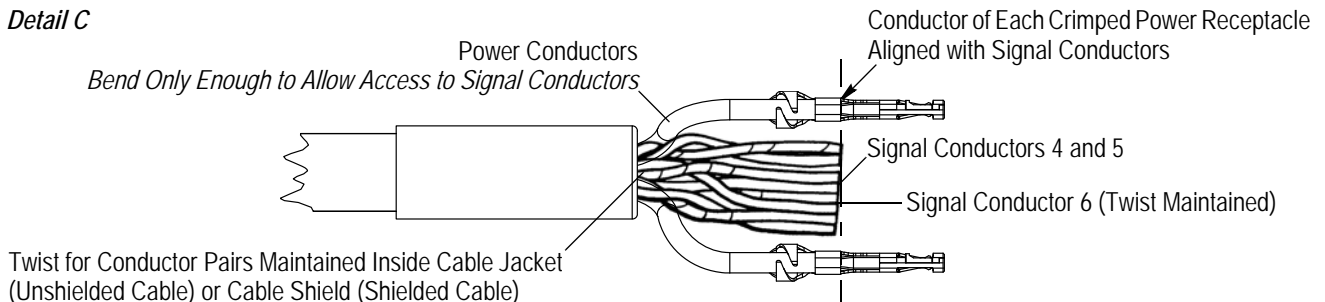

Figure 5
- a. The conductors must be grouped in pairs according to electrical schematic T568C, and the conductor pairs must be arranged in the sequence shown in Figure 5, Detail A.
- b. While holding the end of the cable jacket, the conductor pairs must be untwisted and arranged in positions for the electrical schematic as shown in Figure 5, Detail B.
IT IS CRITICAL that the conductor pairs DO NOT untwist inside the cable jacket. Conductor 6 must be crossed over Conductors 4 and 5. It is extremely important that the twist for Conductor 6 be maintained as it crosses over top of Conductors 4 and 5. Refer to Figure 5, Detail C.
- c. Maintaining the proper orientation of the conductors, the conductors must be trimmed evenly — leaving a length, measured from the end of the cable jacket to the tips of the conductors, that meets the dimension given in Figure 5, Detail C.